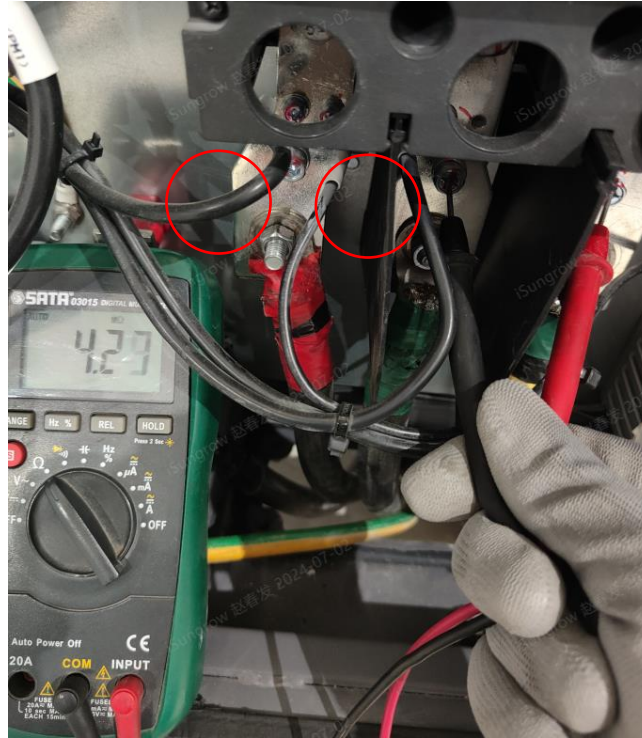

Figure 8-2
2) Set the multimeter to the buzzer range, place the two probes on the R, S, and T terminals respectively, and test whether any two of the three phases are short-circuited. If no buzzing sound is heard, it is normal, as shown in Figure 8-2.